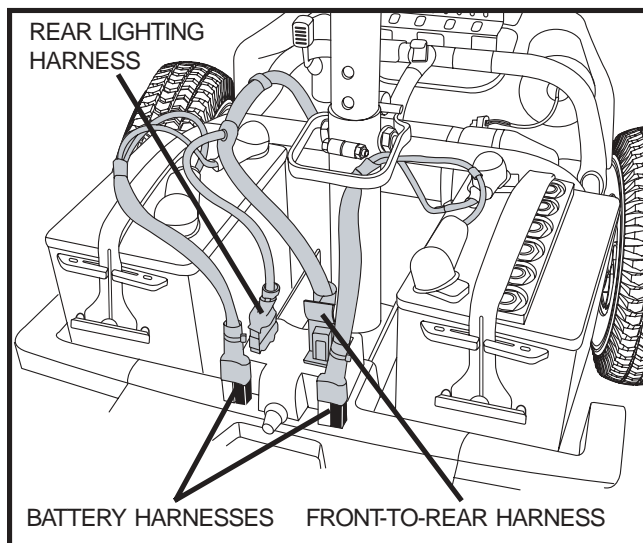

Figure 22. Harness Connections
5. Unplug the front-to-rear and rear lighting harnesses by squeezing the sides and pulling straight up. See figure 22.
6. Unplug both battery harnesses. Pull each harness straight up. See figure 22.
7. Connect the front-to-rear harness, rear lighting harness and both battery harnesses. See figure 22.